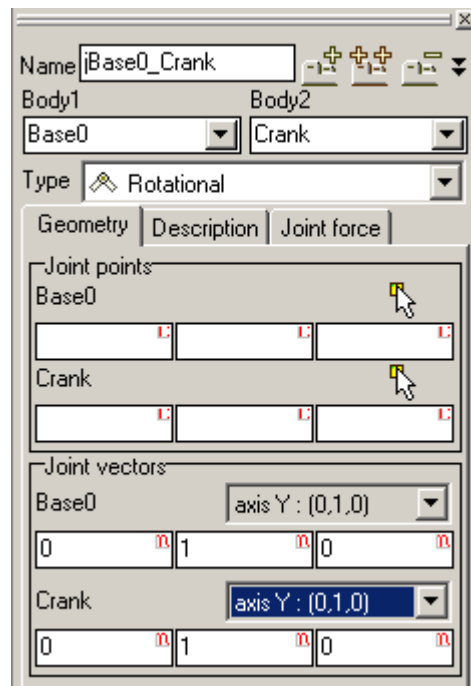

Figure 2.19.
2. Rename the joint to **Base0\_Crank**. Select **Rotational** type for the joint and set **Y** axis as **Joint vectors**, see Fig. 2.19.